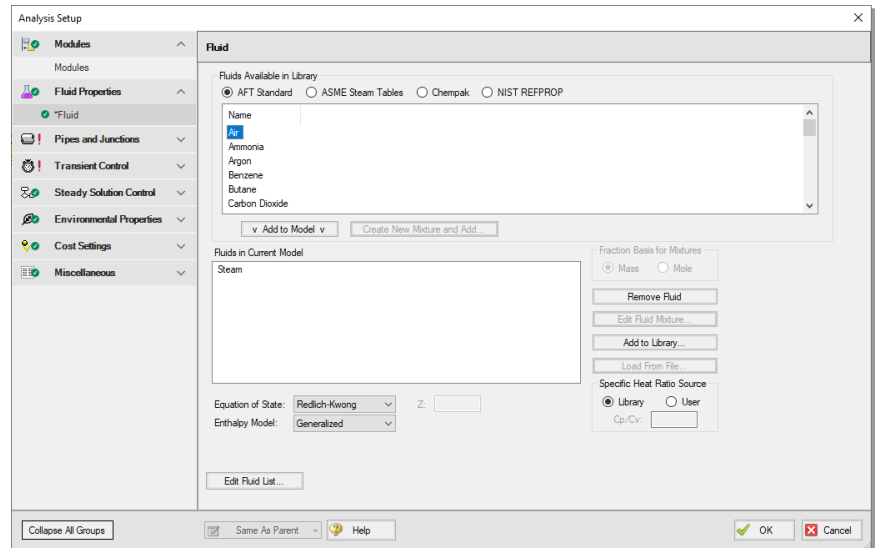

Figure 2.6 Specify the fluid for the analysis in the Fluid panel
- **Click on the Fluid item** to open the Fluid panel (see Figure 2.6). For this example, use the AFT Standard fluid library and select “Steam” in